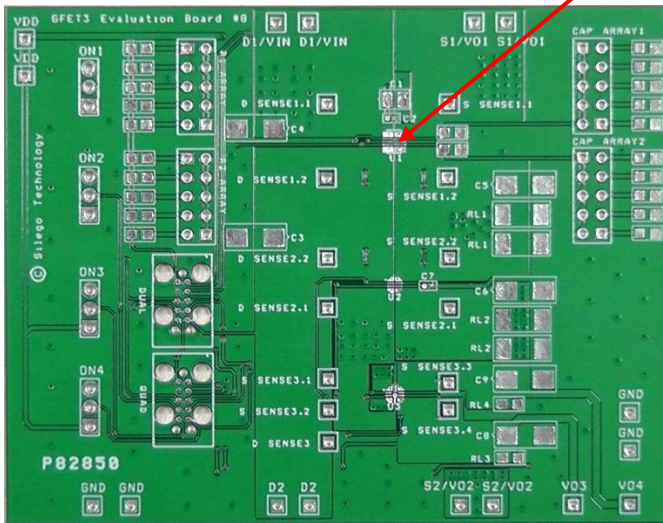

Figure 3. SLG59M1600V Evaluation Test Board
2.3. The D and S pins carry significant current. Please note how the D and S pads are placed directly on the power planes in Figure 3, which minimizes the RDS(ON) associated with long, narrow traces. The D and S pins dissipate most of the heat generated during high-load current condition. The layout shown in Figure 3 is illustrating a proper solution for heat to transfer as efficiently as possible out of the device.